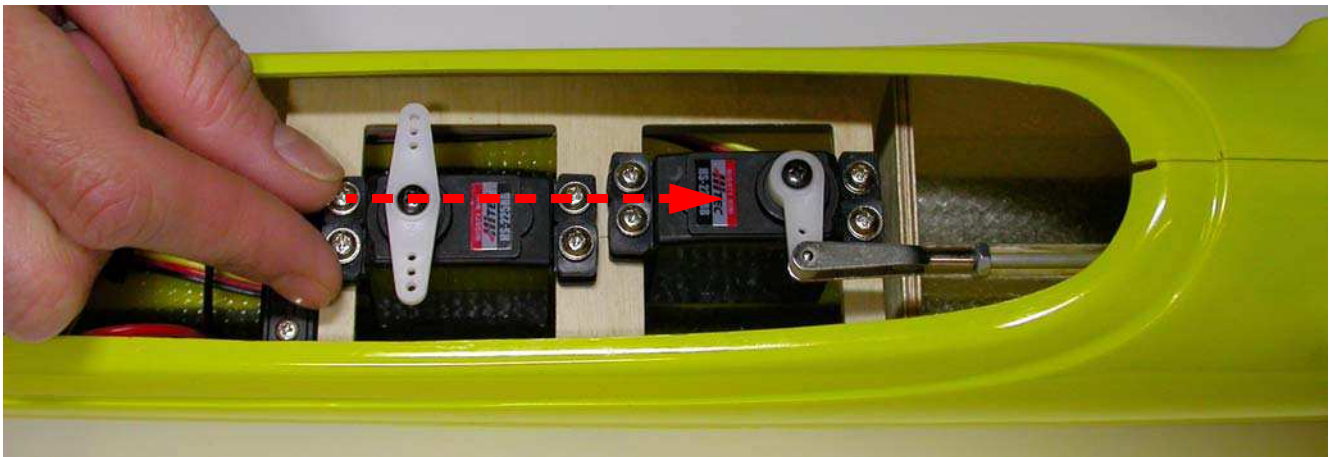

Fig.93: Pushing the servos frame.
- push the servos frame (see figure 93) until the tailplanes are not perfectly aligned (horizontal);